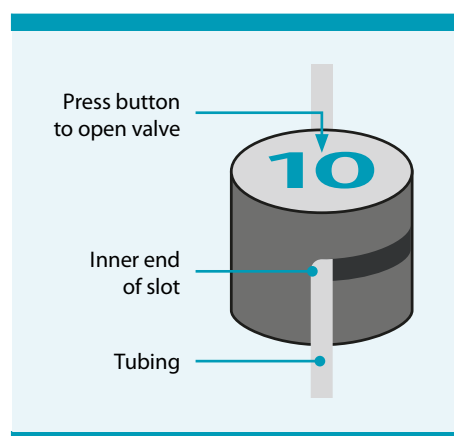

Figure 7.16: Correctly inserted tubing
- *If the tubing has to be adjusted after a valve has been closed, do not pull the tubing without pressing the valve button to open the valve (see Figure 7.16)*
Reinspect the tubing in each valve. Ensure that the tubing enters and leaves each valve through the enlargement at the inner end of the slot (see Figure 7.16).